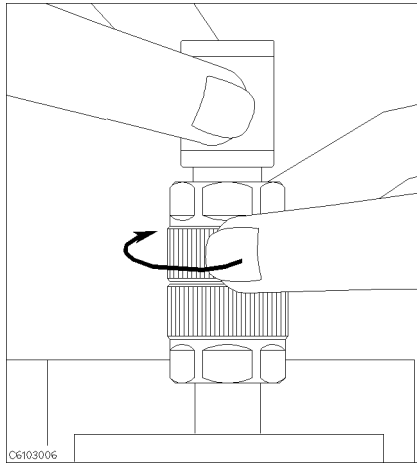

Figure 5-11.
13. Connect the $50\ \Omega$ termination on the APC-7[®] connector as shown in Figure 5-11.